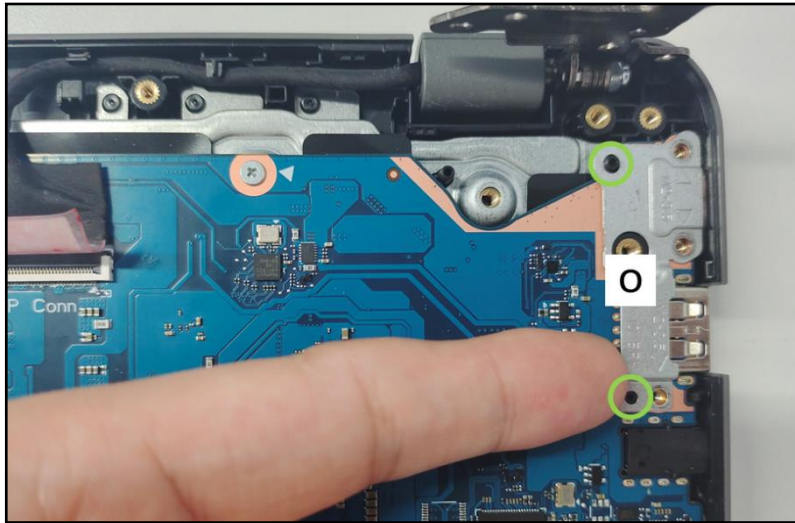

Figure 3-39. Mainboard Removal
10. Release the I/O bracket (N) from the I/O port slot and guide pins (O) on the top assembly (Figure 3-39). Then remove the I/O bracket.